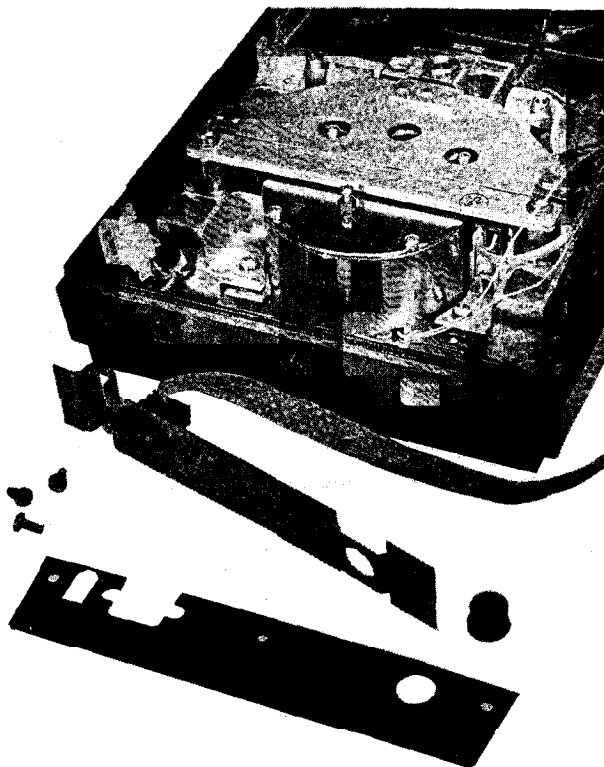

FIGURE 2
5. Disengage the BRACKET located inside the BACK WALL by removing the three (3) SCREWS and the plastic HOLE PLUG from the BACK PANEL. Set the screws and hole plug aside to use again. The back panel will be replaced and may be discarded.
7. Install the 9 PIN RECEPTACLE end of the INTERCONNECTING CABLE (Part Number 90511-08) in the BRACKET, as shown in Figure 2, using the SCREWS and HEX NUTS furnished.